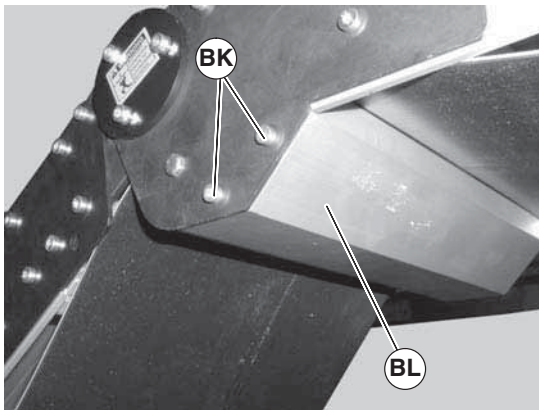

Figure 77
1. Remove screws (Figure 77, item BK) on both sides of knuckle and remove guard (BL).